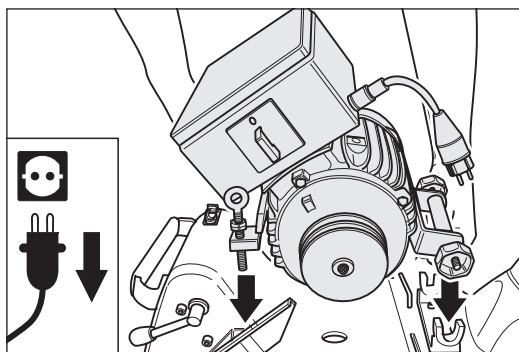
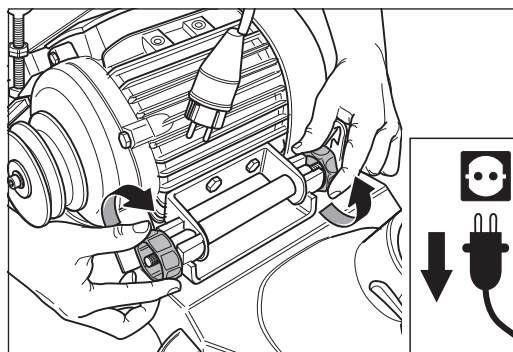

Fig. 60 Place the motor in the motor bearing bracket.
Fig. 61 Tighten the two motor nuts.
- 5 Place the motor in the motor bearing bracket (Fig. 60) and tighten the two motor nuts **slightly** (Fig. 61).
- 7 Tighten the two motor nuts (Fig. 61).